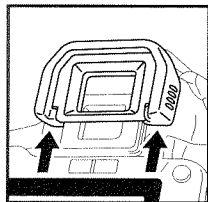

Fig.5
1. Remove the eyecup from the camera (Fig. 5).